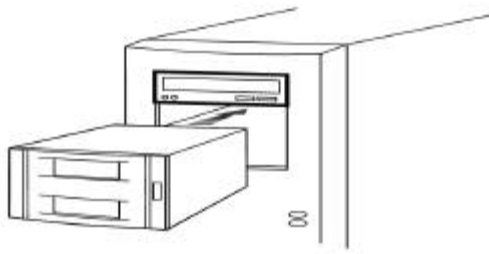

Figure 1
1. Shut down your computer and turn off the power and remove the power cable. Install the box as illustrated in figure 1.